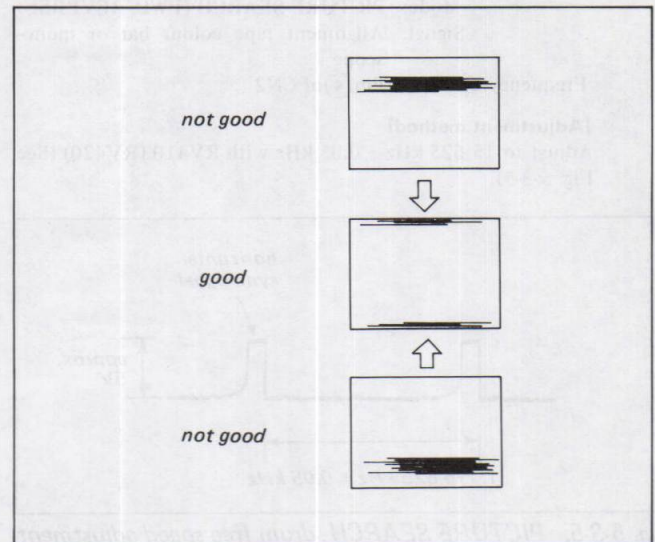

Fig. 5-3-10. CTL delay adjustment
- ii) Adjust RV415 so that noise bars on the TV monitor screen disappear from the screen top or bottom (or are kept to a minimum) while pressing the REVERSE ◀ button (See Fig. 5-3-10)